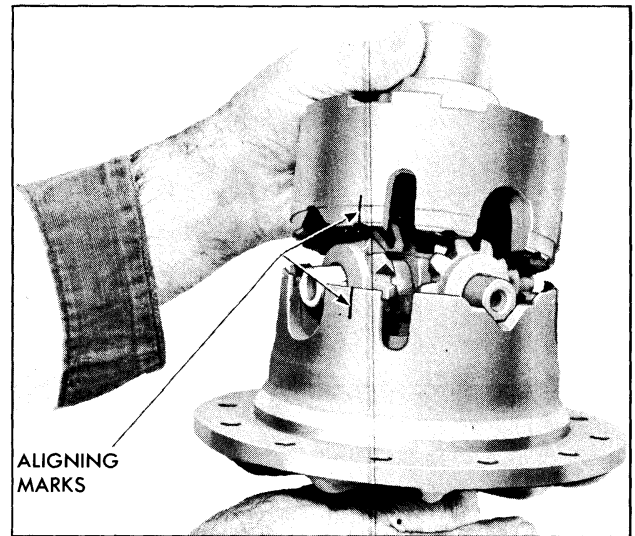

Fig. 4-67 Assembly of Differential Case Halves
5. Assemble differential case flange and button halves as shown in Fig. 4-67, making sure scribe marks are in alignment.